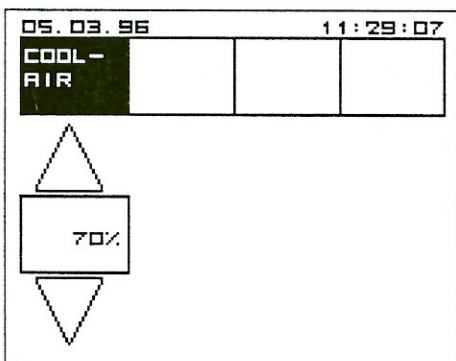

Figure 19. Motor cooling air 2.
- 3) Adjust using A2 and A4 (Fig. 19).